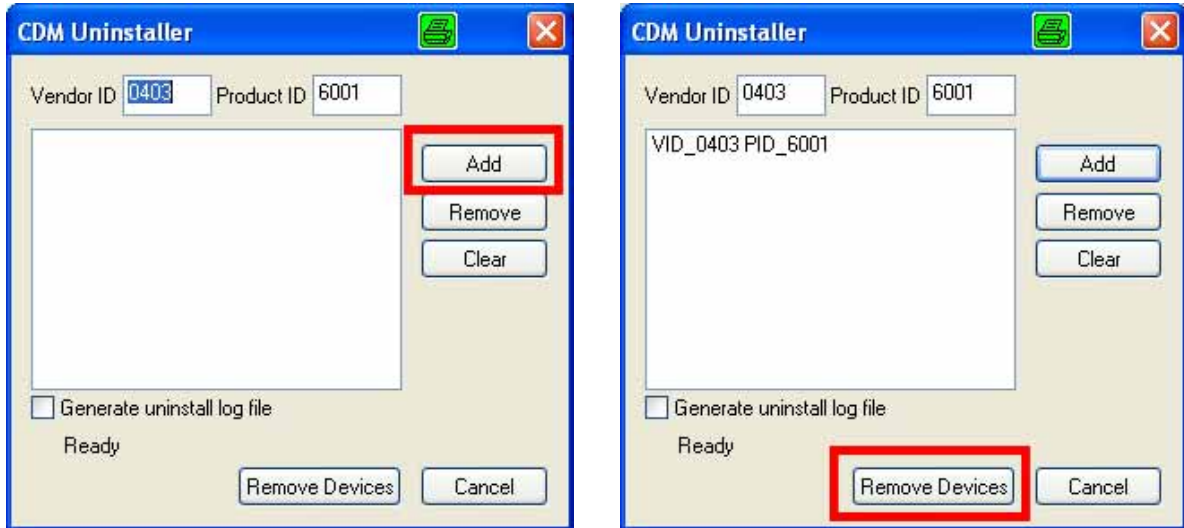

Fig. 33 Uninstallation of FTDI Drivers
3. Check, whether the Vendor ID 0403 and the Product ID 6001 are entered in the input boxes and click the button Add (see Fig. 33 left hand side). VID and PID are added to the devices pending uninstallation. Do not enter different Vendor and Product IDs here as this may remove drivers needed for running Windows properly.
4. With VID_0403 PID_6001 in the large input box click the Remove Devices (see Fig. 33 right hand side) button. Now the old drivers are uninstalled. After a short moment a dialog box "Device removed from system" informs about the completed uninstallation.